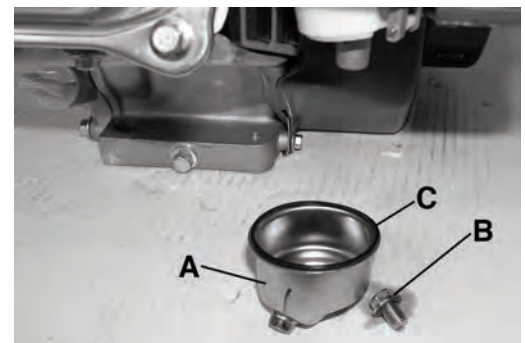

Figure 32
- 2) Remove centre deposit cup bolt (B) Fig.32 using a wrench. Place a pan under the deposit cup to catch any gasoline inside the carburetor.
- 3) Remove deposit cup (A) Fig.32 and o-ring (C), wash both in solvent.